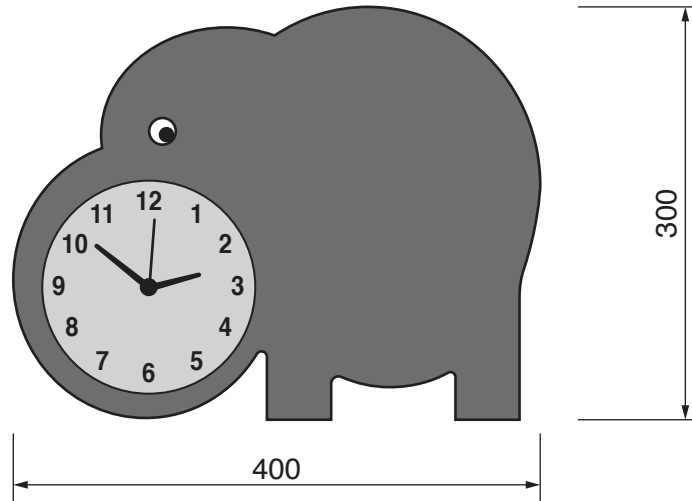

Fig. 6
- 11 Fig. 6 shows an incomplete design of a child’s novelty clock. The clock shape could be made from 5 mm thick manufactured board or 1.5 mm thick non-ferrous metal. The clock will be placed on a shelf.